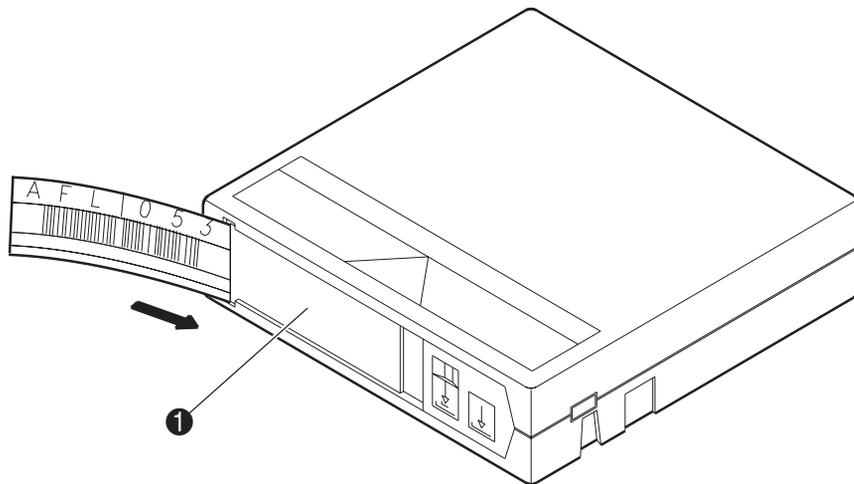

Figure 15: Inserting an SDLT bar code label
SDLT cartridges have a front slide slot located on the face of the cartridge next to the write-protect switch (❶ Figure 15). Use this slot for inserting the bar code label by sliding it into the slot.